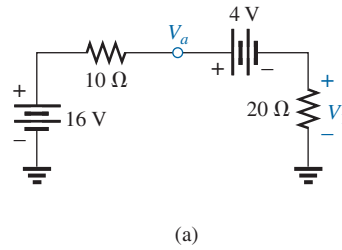

FIG. 5.120
37. Determine the voltages V_a and V_1 for the networks in Fig. 5.120.